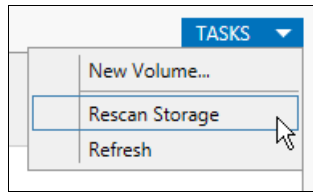

Figure 5-29 Rescan storage from File and Storage Services
- If your mapped volumes are not shown, go to **Tasks** → **Rescan Storage**, as shown in Figure 5-29.